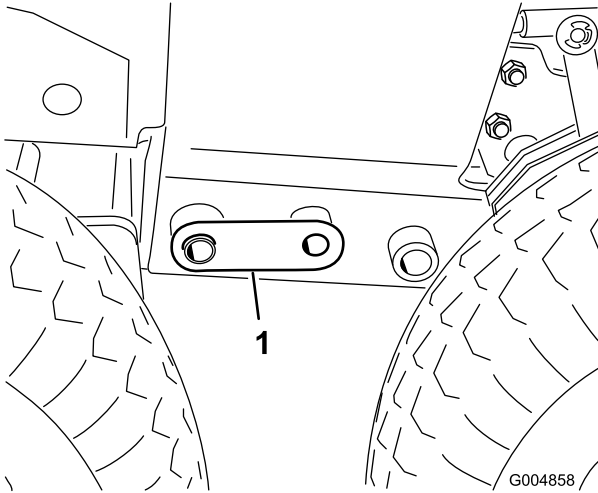

Figure 84
28. Remove the front jack stand and lower the front of the machine onto the tires until the coupler pins (Figure 84) are loose enough to be removed.